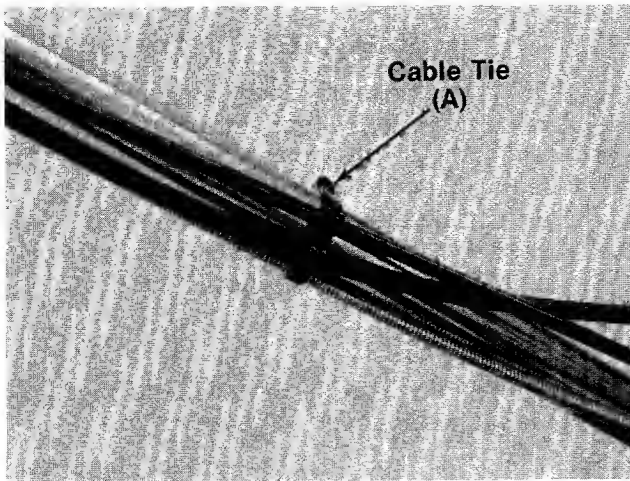

FIGURE 9.
16. Secure the control cables to handle with cable ties (A) provided. See figure 9.